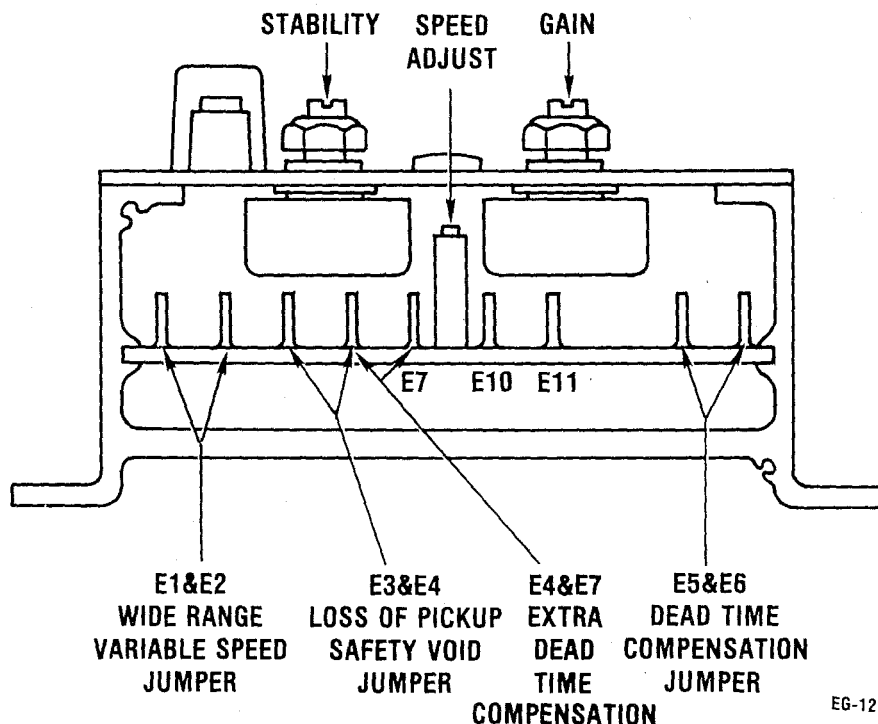

Figure 12. Wide range variable speed, voiding loss of signal protection, and extra dead time compensation.
2. Locate posts E3 and E4 (See Figure 12).
2. Locate posts E1 and E2 (See Figure 12).
- Is the failsafe pickup protection void jumper E3 to E4 in place? If so, remove that jumper. See Figure 12 for location
If rhythmic instability cannot be removed by the gain and stability controls (both controls at near maximum CCW position), adjustment of the speed control units derivative function (extra dead time compensation) can be made. If the frequency of the instability is 5 Hz. or more, remove the end plate near the gain and stability controls, and cut the jumper from E5 to E6 (See Figure 12). Readjust the gain and stability.
If instability is less than 5 Hz. add a $10 \mu\text{F}$ 6 VDC capacitor across E4 to E7 with positive (+) lead to terminal E7. (See Figure 12).